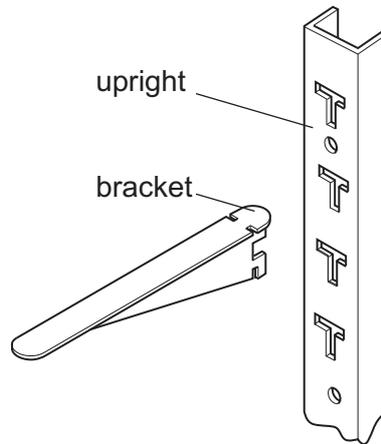

Fig. 3.1
- 3 Fig. 3.1 shows two parts of a shelving system. The upright is screwed to a wall and the bracket slots into the upright to support a wooden shelf.